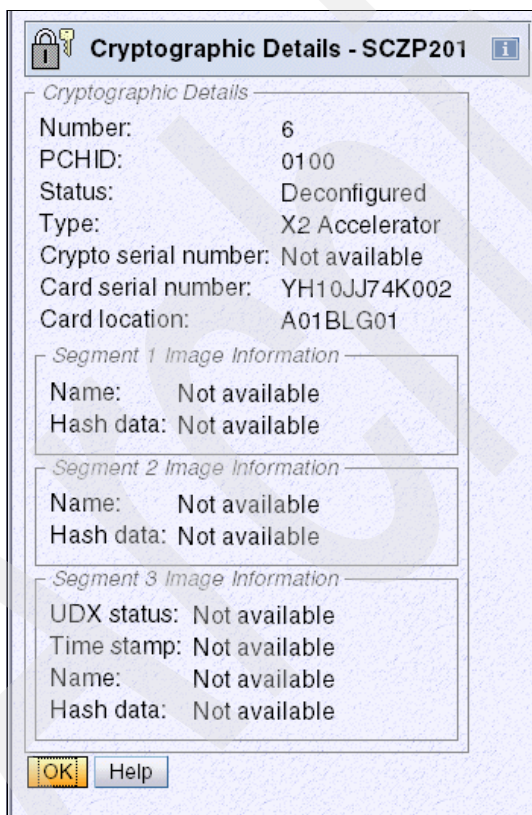

Figure 8-26 SE - Cryptographic Details (Accelerator)
8. Click the **View Details** option for detailed information (Figure 8-26).